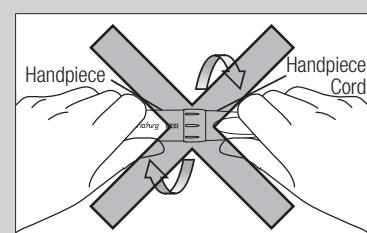

Fig. 22
- ⚠ • The Handpiece can not be removed from the Handpiece Cord. Removing or twisting the Handpiece could cause damage to the internal parts and failure may occur. (Fig. 22)